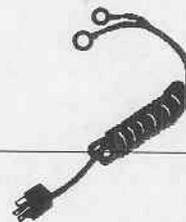

Figure 3-11. Electrical power cable assembly.
(21) Align the base plate and four rubber feet onto the base of the centrifuge.
(22) Reinstall the four slotted screws and tighten them.
(23) Turn the centrifuge back over to its operating position.
(24) Open the cover by pulling the bottom of the latch outward and lifting the cover upward.
(25) Reinstall the rotor assembly by inserting it down over the spindle and then rotating it clockwise until it locks.
(26) Close and latch the cover.
**3-24. Electrical power cable assembly (fig 3-11).**
(1) Turn the timer to its "OFF" position.
(2) Disconnect the electrical power cable assembly from the electrical receptacle.
(3) Open the cover by pulling the bottom of the latch outward and lifting the cover upward.
(4) Remove the rotor assembly by pulling it upward. Set it aside.